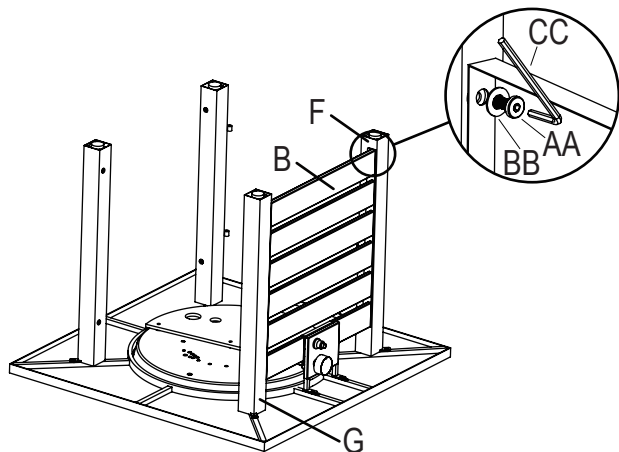

Figure 3
- Attach front panel (B) to front-left leg (G) and front-right leg (F) with bolts (AA) and washer (BB) using hex screw driver (CC), (see Figure 3).